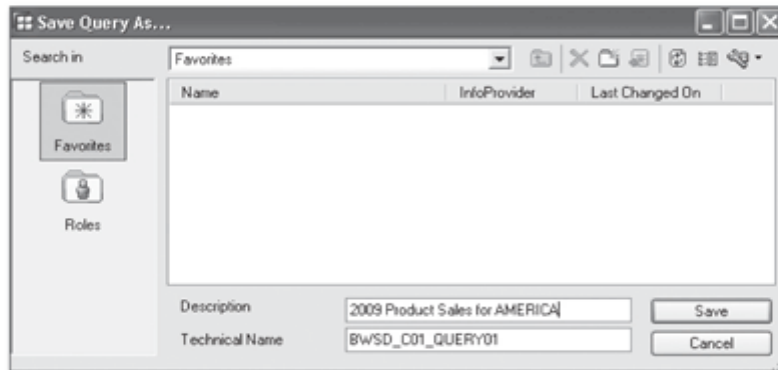

Figure 9.14 Save Query Definition
The query is ready. To save this query definition, click on the save button (❺). You can also use menu function QUERY • SAVE to save the query. You have to specify the technical name and the description of the query in the pop-up box and click on the Save button to save the query (see Figure 9.14).